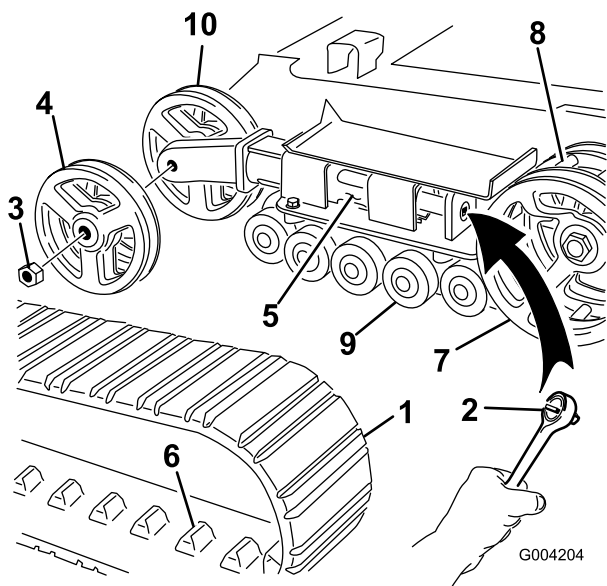

Figure 47
**Note:** You have wide-width tracks if the front tension wheels are mounted on the sides of the end of the tension tube (Figure 47).
- Using a 1/2-inch drive ratchet, release the drive tension by turning the tensioning screw clockwise (Figure 45 and Figure 47).
- Push the tension wheel toward the rear of the unit to move the tension tube against the frame (Figure 47).
- Remove the nut securing the outer tension wheel and remove the wheel (Figure 47).
- Remove the track (Figure 47).
- Remove the nut securing the inner tension wheel and remove the wheel (Figure 47).
- Install the inner tension wheel and secure it with the nut removed previously (Figure 47).
- Install the new track, ensuring that the lugs in the track fit between the cogs in the middle of the drive sprocket (Figure 47).
- Install the outer tension wheel and secure it with the nut removed previously (Figure 47).